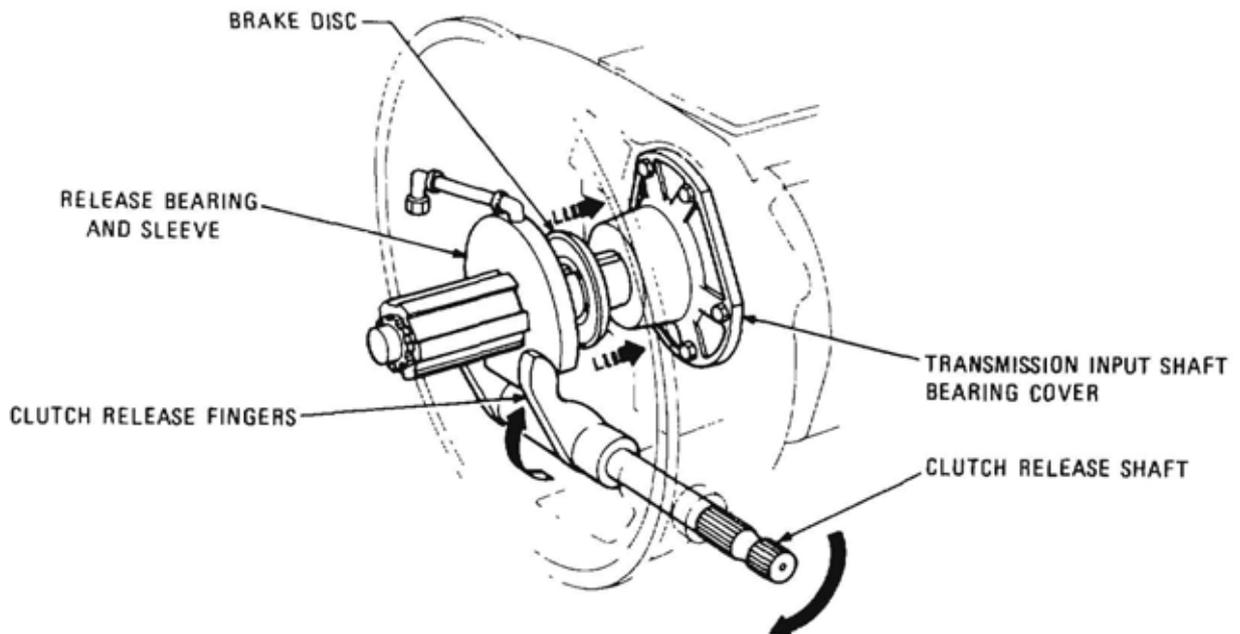

Figure 55 Clutch Brake
78. A Spicer torque limiting clutch brake is fitted to the vehicle (Figure 55). This brake assists in preventing severe gear clash when initially selecting first or reverse gears. The brake comes into effect only when the clutch pedal is depressed through the last 25 mm of travel, causing the clutch release bearing to come into contact with the clutch brake disc, sandwiching the disc against the transmission input shaft bearing cover. This action creates a braking effect and either slows down or stops the rotation of the clutch brake disc. Because the disc is splined to the transmission main input shaft, the shaft rotation is slowed down or stopped allowing first or reverse gear to be selected without clashing or putting undue strain on the gears.